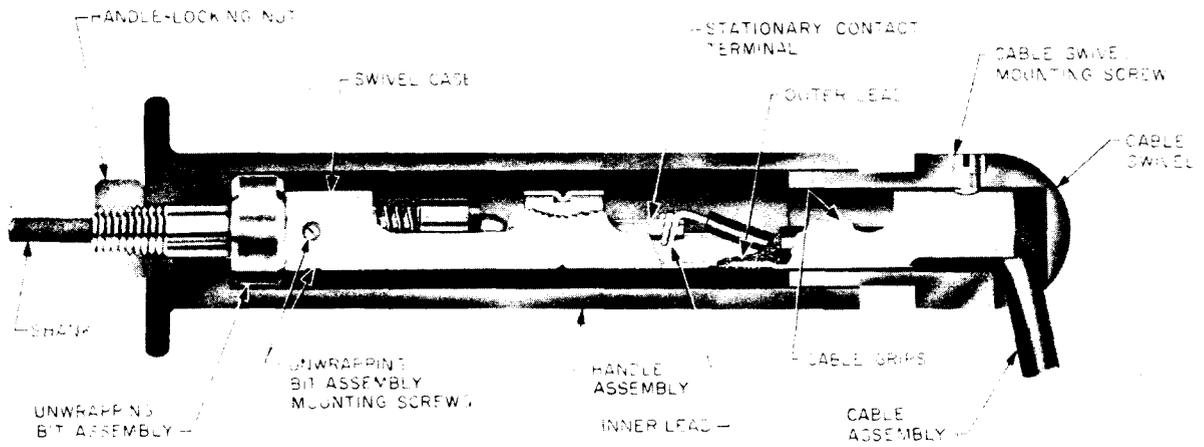

Fig. 2—Cross Section of Handle Assembly for KS-16450 L1 Wire Unwrapping Tool
- (6) Referring to Fig. 2, thread the other end of the cable assembly through the cable swivel and swivel case. Insert the outer lead through the hole in the swivel case and bend the lead over the edge of the hole as shown in
Fig. 2. Wrap the inner lead around the stationary contact terminal using the B-long-nose pliers. Then, using the soldering iron, solder the leads in place in accordance with approved procedures.